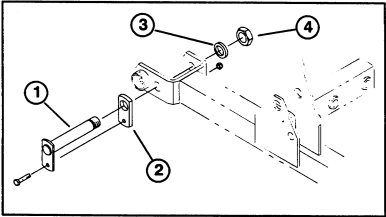

Figure 2
4. Insert a frame plate onto new pivot pin (Fig. 2).
5. From front of frame, insert pivot pin through frame members and lift arm (Fig. 2).